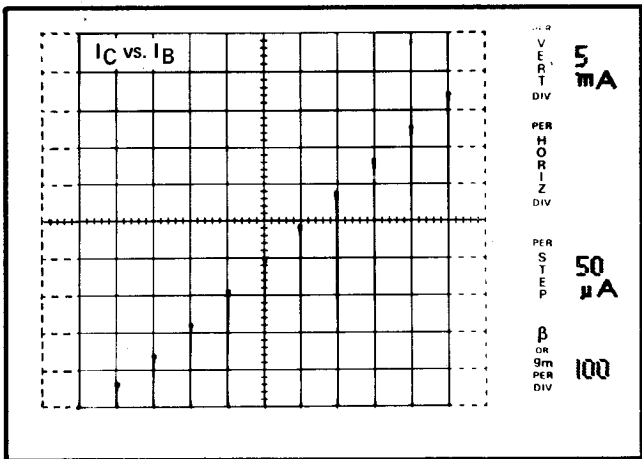

Fig. 2-15. I_C vs. I_B , I_B @ $50 \mu A$ per division.
56. Set the VERTICAL switch to 5 mA and the HORIZONTAL switch to STEP GEN. Note the display of collector current vs. base-current, one step per horizontal division (see Fig. 2-15).